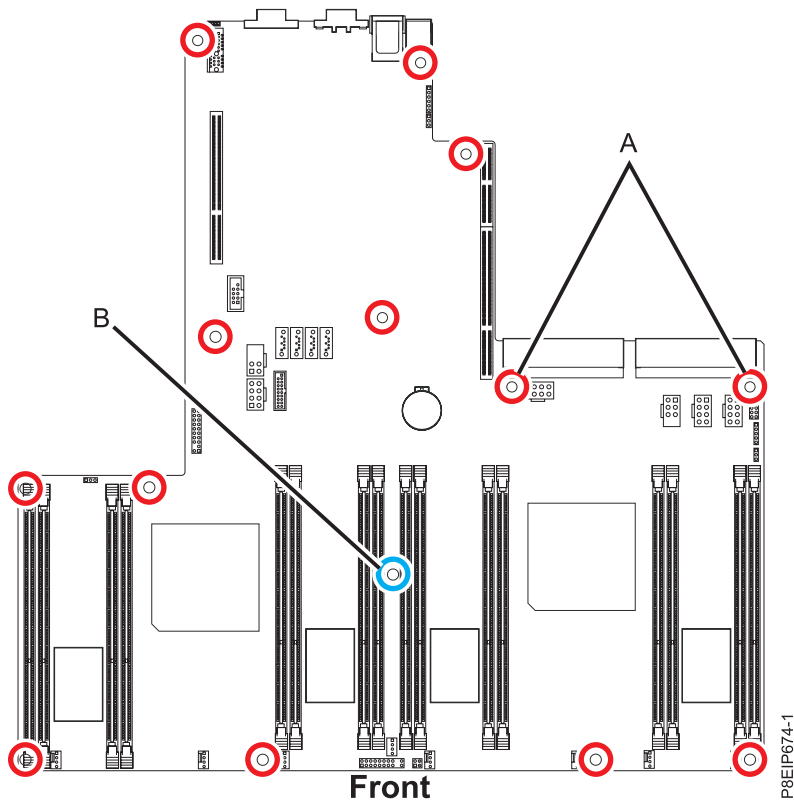

Figure 71. Screw locations. The two screws at **(A)** are black and slightly longer. One long screw at **(B)** supports the PCIe adapter.
13. Align and screw the 14 screws into the system backplane. The screw locations are shown in Figure 71 on page 58.